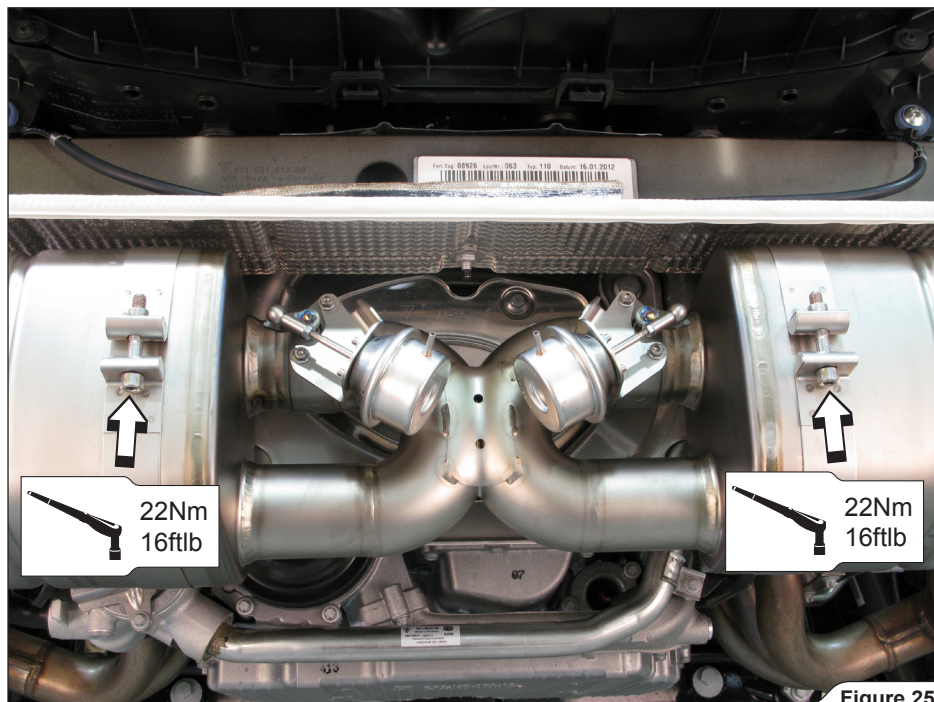

Figure 25
- Slide the clamps over the muffler's bracket, align the muffler in respect to the vehicle chassis and tighten the clamps to the specified torque (**Figure 25**).